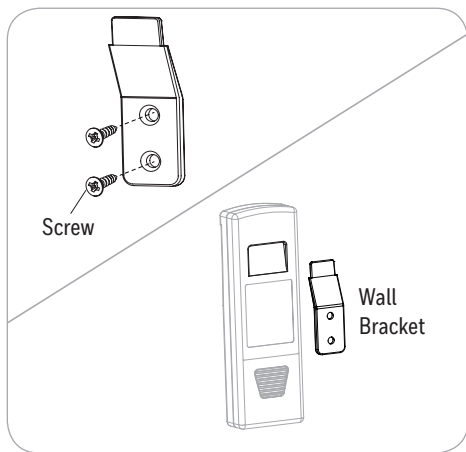

Figure 5.7
7. If desired, the wall bracket in remote pack can be installed to a wall using the provided mounting screws. The remote can be stored in the mounting bracket for easy access (Figure 5.7).